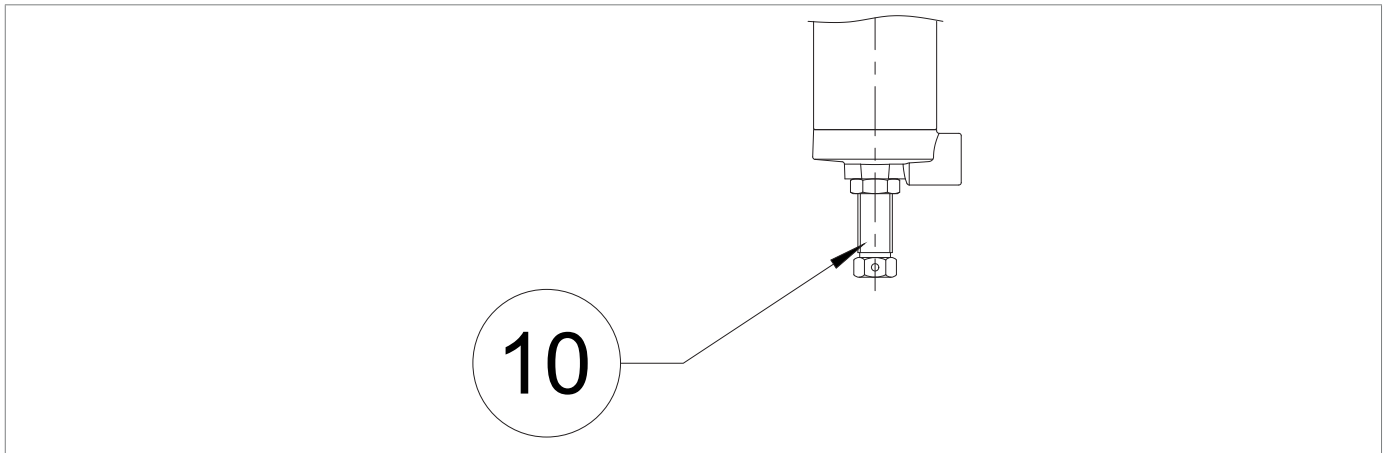

Fig. 8.37. 200/A/FO and 200/A series pilots
12	<p>a - FOR INITIAL COMMISSIONING OF THE REGULATION LINE</p> <p>If the pressure downstream (Pd) is not at the required calibration value, proceed as follows:</p> <ul style="list-style-type: none"> value of the downstream pressure (Pd) is lower than the required calibration value: load the pilot calibration spring (3) by turning the adjustment screw (Fig. 8.37, ref. 10) clockwise value of the downstream pressure (Pd) is higher than the required calibration value: unload the pilot calibration spring (3) by turning the adjustment screw (Fig. 8.37, ref. 10) clockwise
<p>b - AFTER MAINTENANCE OF THE REGULATION LINE</p> <ul style="list-style-type: none"> load the pilot setting spring (3) by turning the adjustment screw (Fig. 8.37, ref. 10) clockwise to increase the regulator pressure value (1)
12	<p>a - FOR INITIAL COMMISSIONING OF THE REGULATION LINE If the pressure downstream (Pd) is not at the required calibration value, proceed as follows:</p> <ul style="list-style-type: none"> • value of the downstream pressure (Pd) is lower than the required calibration value: load the pilot calibration spring (3) by turning the adjustment screw (Fig. 8.37, ref. 10) • value of the downstream pressure (Pd) is higher than the required calibration value: unload the pilot calibration spring (3) by turning the adjustment screw (Fig. 8.37, ref. 10) clockwise <p>b - AFTER MAINTENANCE OF THE REGULATION LINE</p> <ul style="list-style-type: none"> • load the pilot setting spring (3) by turning the adjustment screw Fig. 8.37, ref. 10 clockwise to increase the regulator pressure value (1)